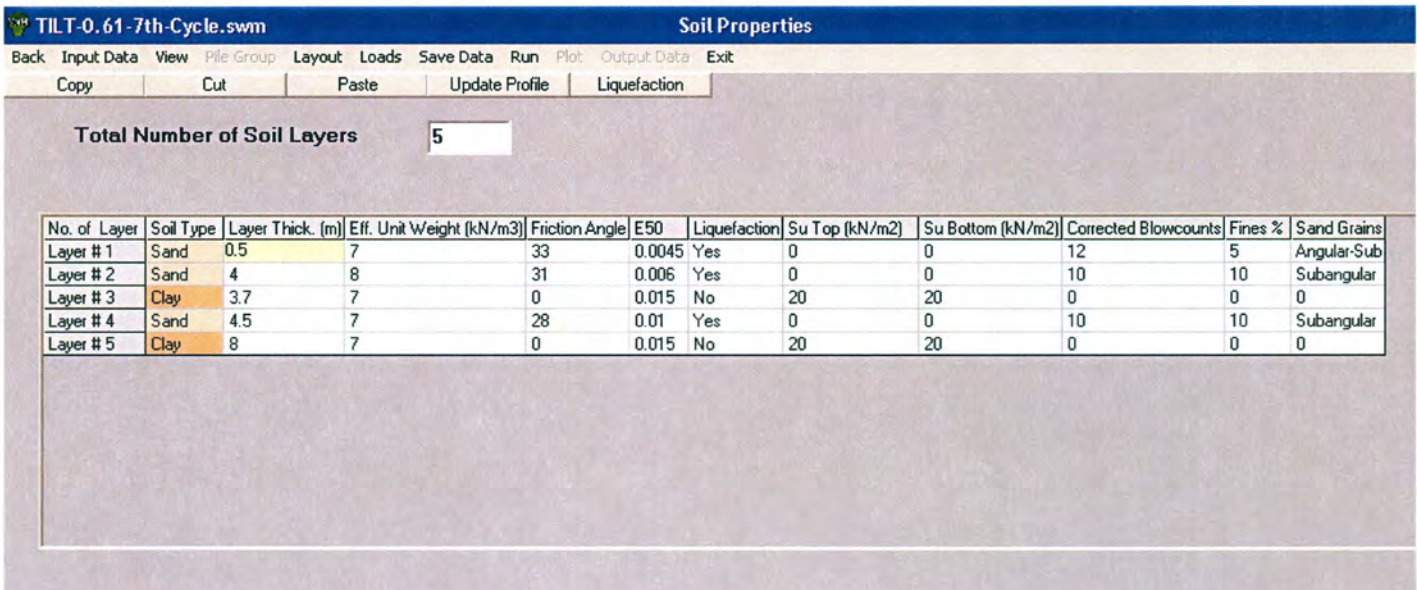

Fig. 16 Editable Table for Soil Properties and Conditions
- **Window # 4 (Soil Profile)** [Fig. 16]
- The properties of soil layers can either be deleted or copied and pasted using the buttons seen in Fig. 16.